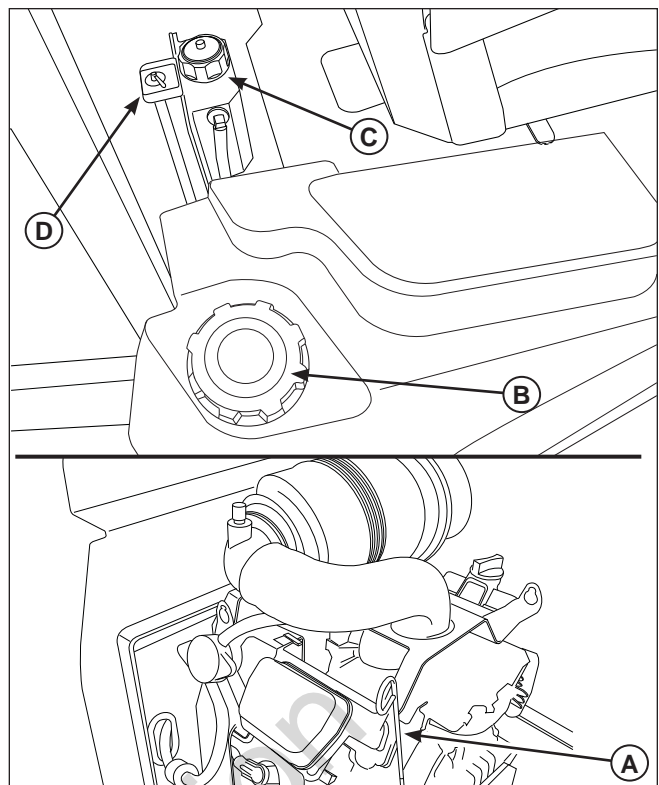

Figure 1. Pre-start Checks (Unit Shown With Hood Raised)
- Check that crankcase is filled to full mark on the engine oil dipstick (**A, Figure 1**). See the engine Operator's Manual for instructions and oil recommendations.